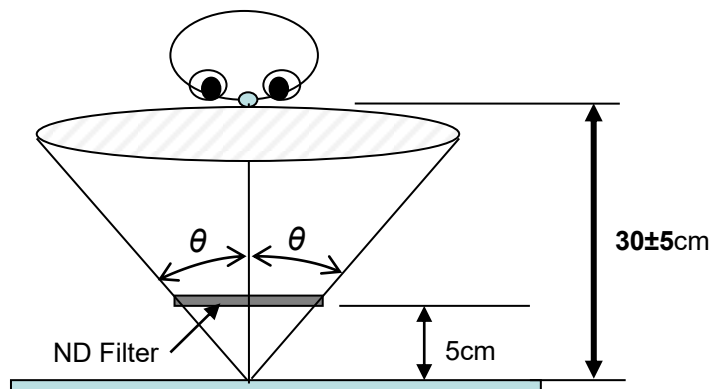

Fig. 1
- 5.3 Distance: 30±5 cm in front of LCD unit with a viewing angle of $\theta = 10^\circ$. (refer to figure 1)
ND filter use method: The inspection method of ND Filter - holding ND filter in front of the panel around 5 cm and examine the panel from **30±5** cm in the front view for **3** seconds. (Fig. 1)